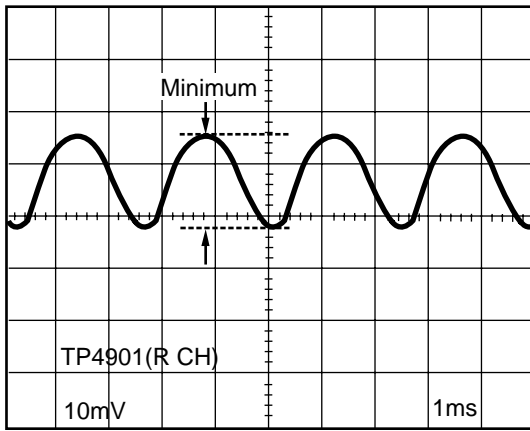

Fig. E5-1
3. Adjust R4901 on the TV Stereo Amp C.B.A. so that the signal level is at minimum as shown in Fig. E5-1.